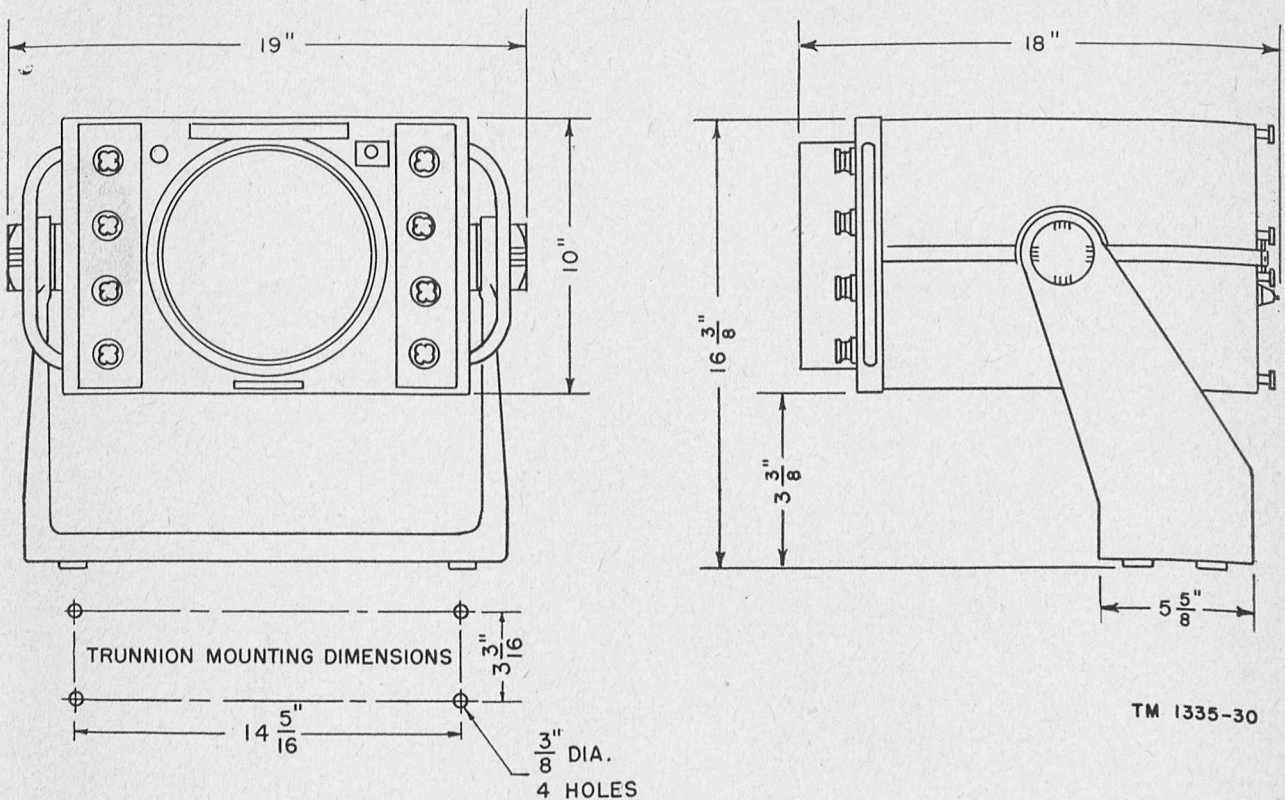

Figure 26. Indicator, dimensional drawing.
a. *Installation on bulkhead or overhead* (fig. 26). The trunnion mounting base should rest on a wooden crib at least 1 inch thick. This crib usually is supplied by the shipyard.
- (1) Select the position for the trunnion mounting base on the bulkhead or overhead and mount the wooden crib.
- (2) Drill four ⅜-inch holes (fig. 26) in the wooden crib.
- (3) Fasten the trunnion mounting base to the wooden crib with four ⅝-inch bolts. Use suitable lockwashers and nuts.
- (4) Connect the cables at the rear of the unit. (Refer to paragraphs 40 through 43 for cabling information.)
- (1) Refer to the trunnion mounting dimensions diagram (fig. 26) and drill four ⅜-inch holes in the *top* of the *frame* of the receiver-transmitter cabinet.
- (2) Fasten the trunnion mounting base to the top of the receiver-transmitter cabinet with four ⅝-inch bolts. Use suitable lockwashers and nuts.